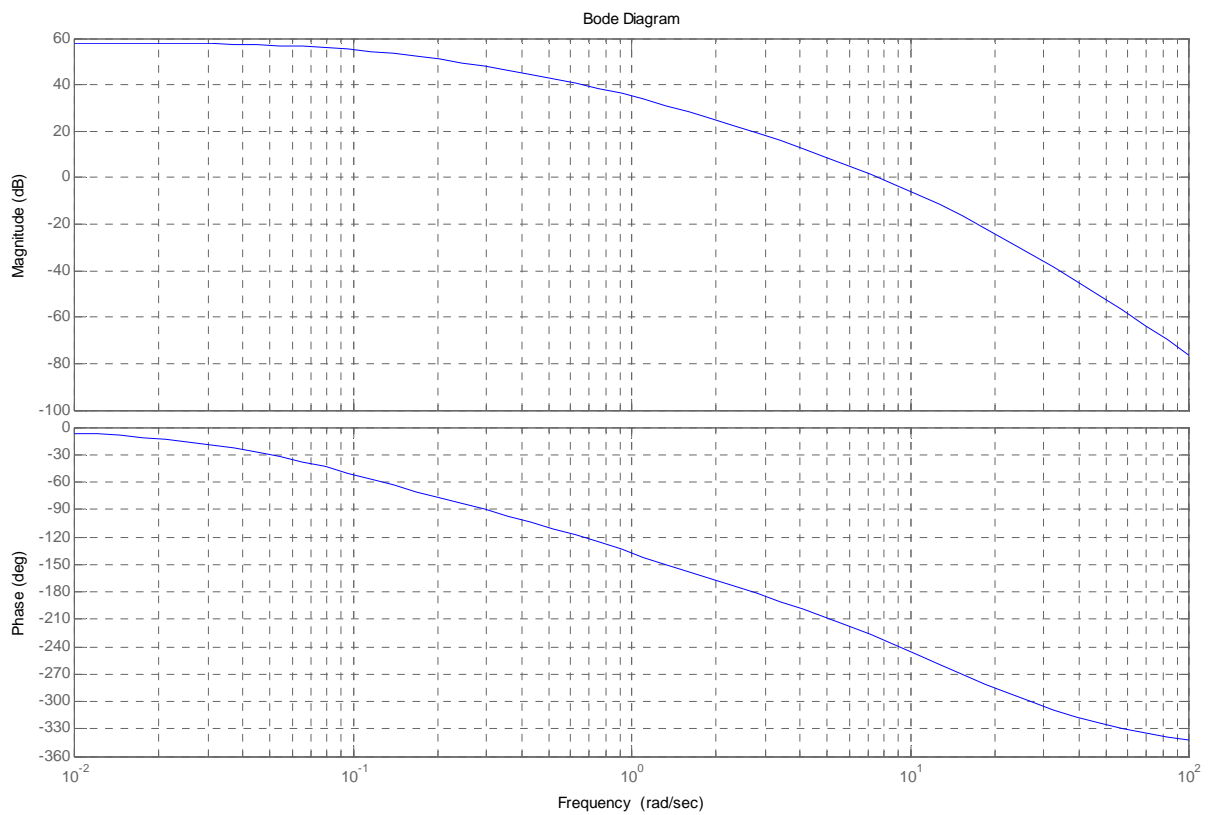

Figure 10.3
- (i) The Bode plots of the open-loop transfer function with $K_A = 40$ are given in Figure 10.3. Determine the gain and phase margins of the system. Is the system stable?